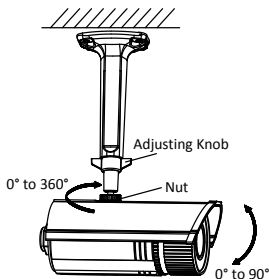

Figure 2-10 Adjust the View Angle
4. Adjust the view angle as shown in Figure 2-10.